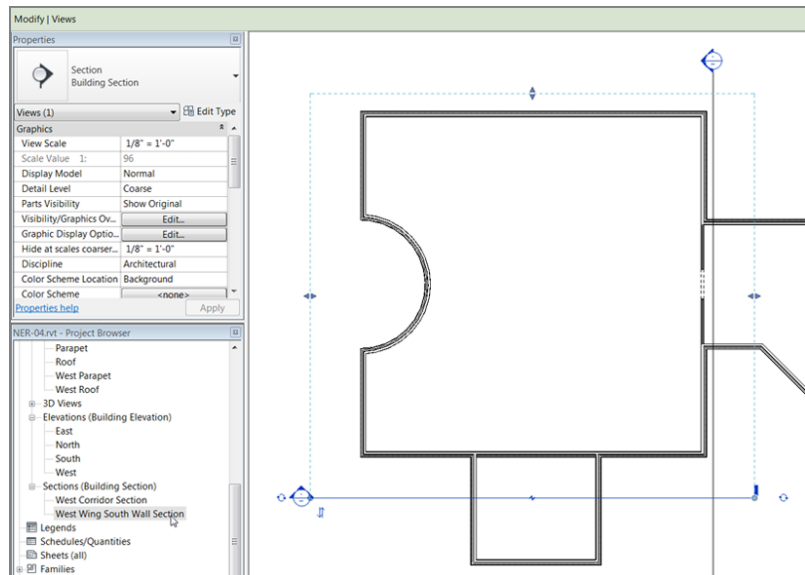

FIGURE 3.52: Adding another section to modify another wall
7. Place a section as shown in Figure 3.52. Make sure the extents are similar to the figure.